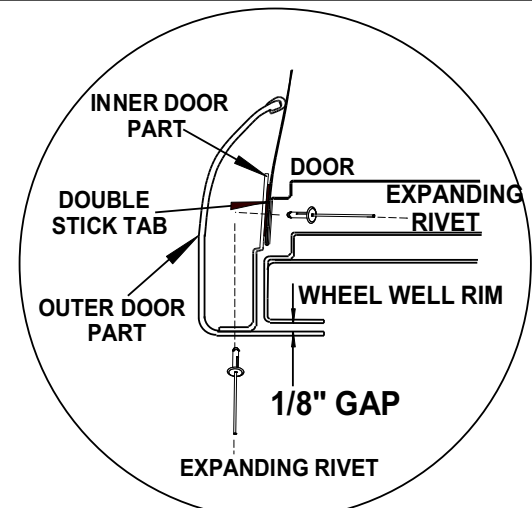

FIGURE 5
- (C) Hold the outer door part onto the inner door part to confirm part to part and part to door seam alignment. Also confirm that there is a 1/8" gap between the outer door part and the wheel well opening. See FIGURE 5.
- (D) If necessary for proper fit, reposition the inner door part and repeat last step.
- (E) Remove outer door part. Open the rear door and drill four 3/16" holes through the door using the holes in the inner door part as a guide.
- (F) Secure the inner door piece to the door from the inside using four expanding rivets. See FIGURE 5.
- (G) Position outer door part on the inner door part leaving a gap of approximately 1/8" between wheel well rim and flare to allow for proper door operation. Using moderate pressure on outside surface of flare, drill three 3/16" holes through inner door part using holes in outer door part as guide. Secure with three expanding rivets. See FIGURE 5.